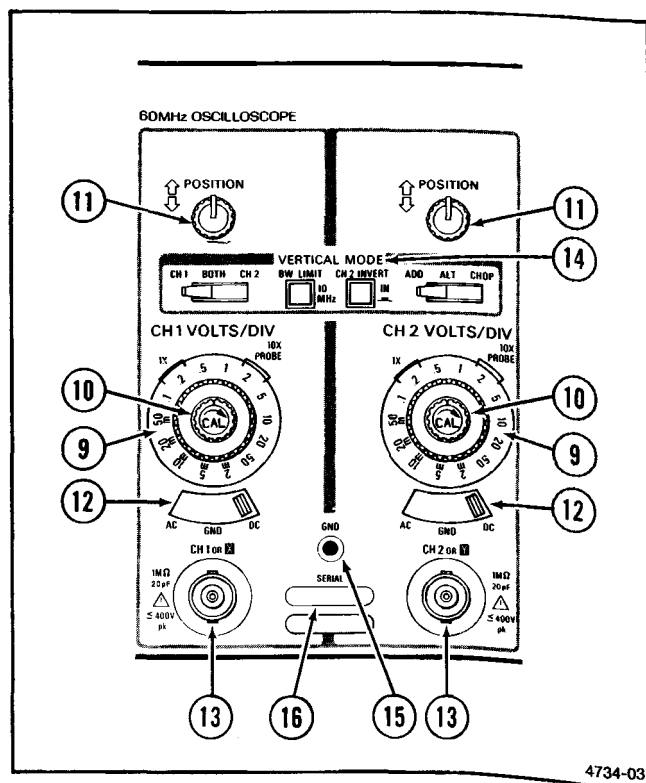

Figure 2-4. Vertical controls and connectors.
Refer to Figure 2-4 for location of items 9 through 16.